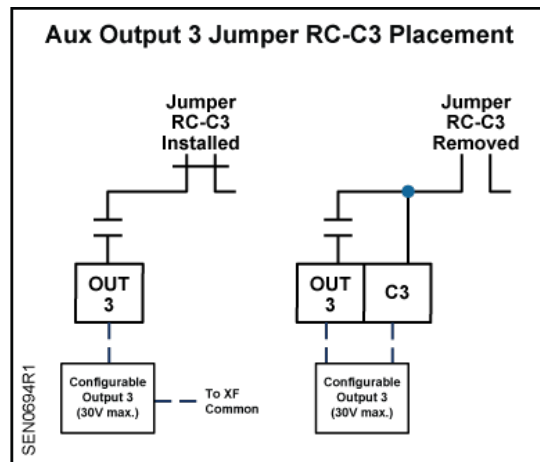

Figure 3. Wiring Schematic, Aux Output 3.
**Optional:** Auxiliary Output 3 can be changed to a dry (unpowered) contact by removing Jumper RC-C3 See *Wiring Diagrams*, Figure 3.